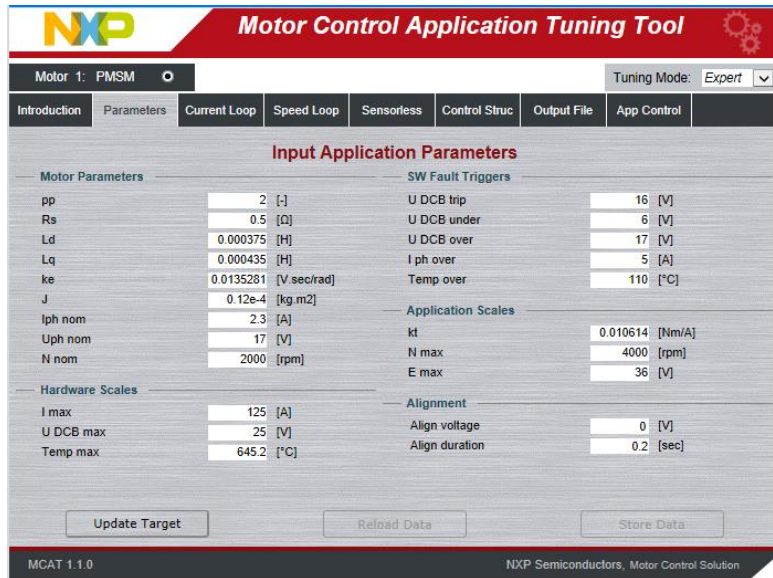

Figure 30. MCAT Parameters Page with Align Voltage Set to 0 V
- Parameters tab: **Align voltage** set to 0 V, see Figure 30